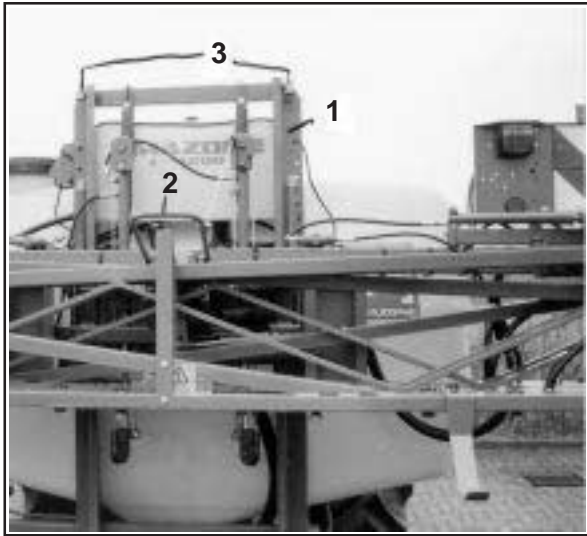

Fig. 10.8
- Lift the folded in boom until the automatic transport locking (Fig. 10.8/ 2) releases (height position about 2/3 of the boom mounting frame length).
- Unlock the boom swing compensation from the transport position by lifting the boom up to its upper stops (Fig. 10.8/ 3) (please refer to para. 10.1.2.3).